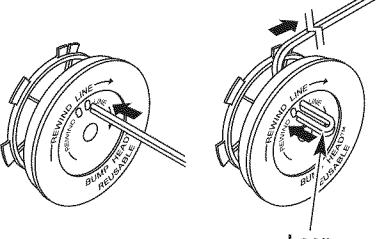

Fig. 19
- Take approximately 10 feet (3 m) of new trimming line. Insert one end of the line through one of the two holes in the inner reel (Fig. 19). Pull the line through the inner reel until only about 4 inches is left out.
- Insert the end of the line into the open hole in the inner reel and pull the line tight to make the loop as small as possible (Fig. 19).